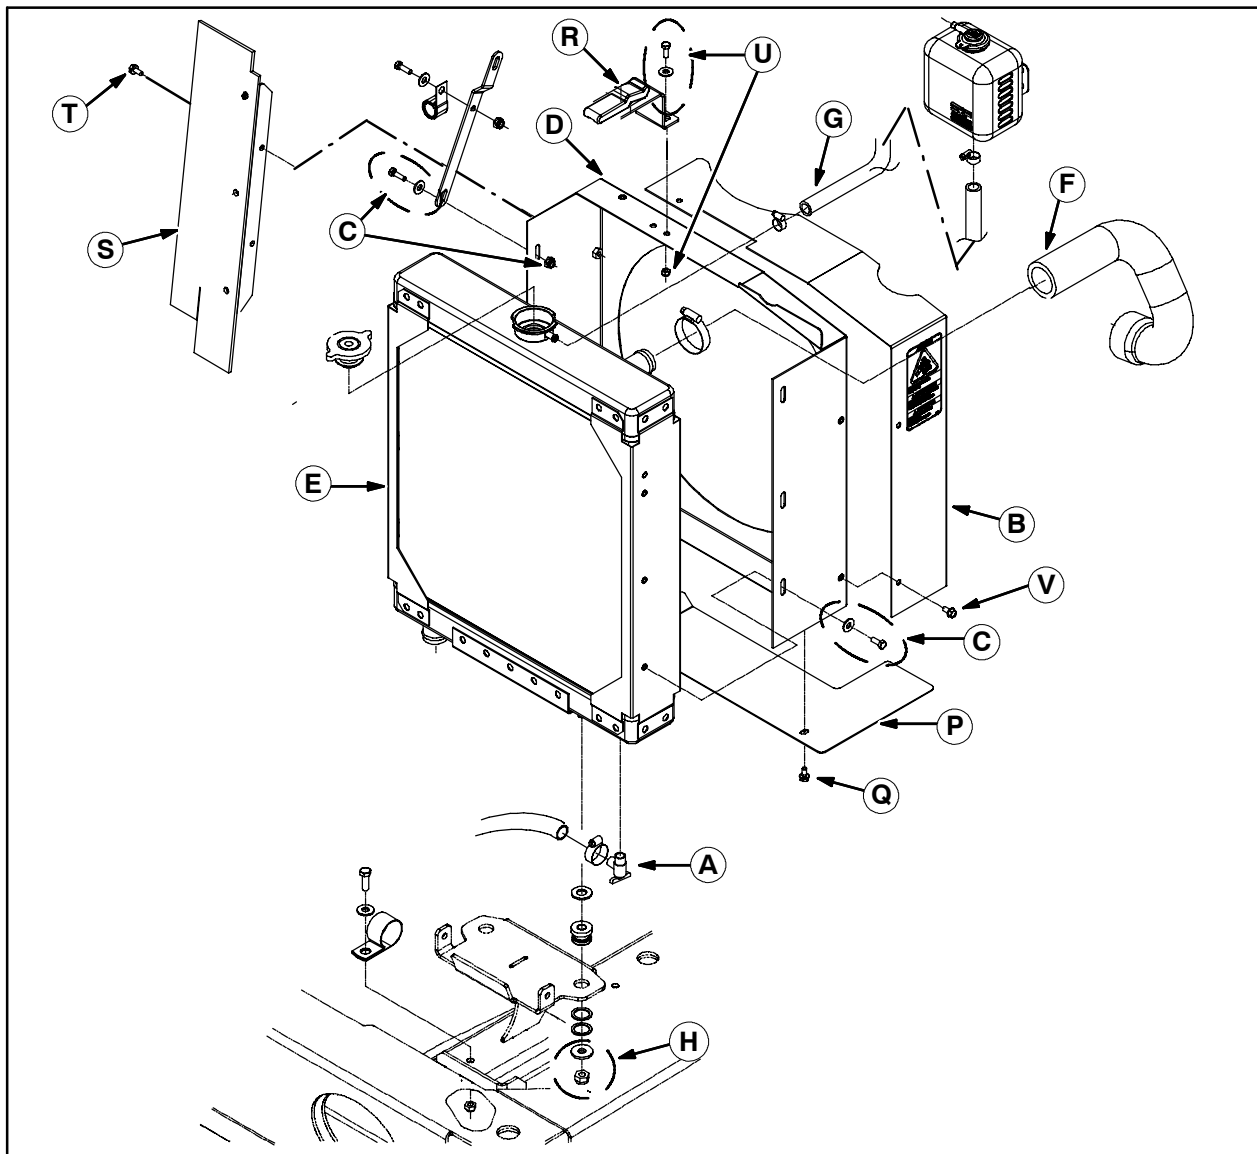

FIG. 3
6. Place a drain pan under the radiator, position the drain hose attached to the drain cock (A) located underneath the radiator into the drain pan, and open the drain cock to drain coolant from the radiator. Drain the radiator until the fluid level in the radiator is below the hoses attached to the top of the radiator. Refer to Fig. 3.
7. Remove the fan shroud guard plate (B) from the radiator assembly. Set the guard plate and all mounting hardware (V) aside. Refer to Fig. 3.
9. Remove the air deflector plate (P) from the fan panel shroud (D). Set the hex screws (Q) aside. Discard the air deflector plate. Refer to Fig. 3.
10. Disconnect hoses (F) and (G) from the radiator. Position hoses out of the way so coolant does not leak out onto the engine or the floor. Set the hose clamps aside. Refer to Fig. 3.
11. Remove the two nuts and washers (H) holding the bottom of the radiator to the machine. Set the the nuts and washers aside. **Do Not** lose the washers. Refer to Fig. 3.
12. Remove the hardware (C) holding the fan shroud panel (D) to the radiator (E). Set all removed hardware (C) aside. Refer to Fig. 3.
13. Carefully move the radiator forward and out of the way of the fan assembly. Do not completely remove the radiator from the machine. Refer to Fig. 3.
15. Remove the fan shroud panel (D) from the machine. Remove the latch assembly (R) and radiator seal assembly (S) from the fan panel shroud. Set the latch assembly, radiator seal seal, and mounting hardware (T) and (U) aside. Discard the fan shroud panel. Refer to Fig. 3.
1. Use the saved hardware (T) and (U) to attach the latch assembly (R) and radiator seal assembly (S) onto the new fan shroud panel (16). Refer to Fig. 3.
3. Place the new fan shroud panel (16) next to the radiator, where the old fan shroud panel was previously installed. Refer to Fig. 3.
10. Use the saved nuts and washers (H) to reinstall the radiator onto the machine. Refer to Fig. 3.
11. Use the saved hardware (C) to reinstall the shroud panel (D) onto the radiator. If necessary, loosen the latch assembly (R) to make installing the inner hardware easier. Do not completely tighten the hardware. Refer to Fig. 3.
14. Reattach the hoses (F) and (G) removed from the top of the radiator. Refer to Fig. 3.
15. Use saved hardware (V) to install the fan shroud guard plate (B) onto the fan shroud panel (16). Refer to Fig. 3.